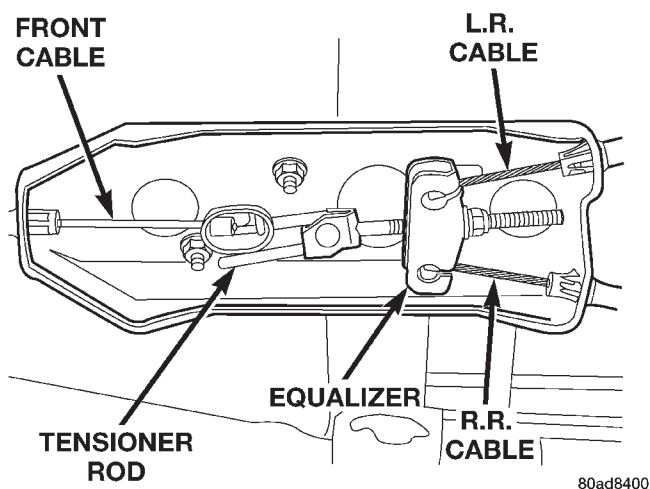

Fig. 45 Park Brake Cable Attachment
(1) Release parking brakes.
(2) Disconnect battery negative cable and raise vehicle on hoist.
(3) Remove front cable adjusting nut and disengage cable tensioner from equalizer. Then remove front cable from tensioner (Fig. 45).
(4) Disengage front cable from insert and insert from floorpan.
(5) Lower vehicle.
(6) Remove console, refer to Group 23 Body.
(7) Remove park brake lever.
(8) Disconnect front cable from parking brake lever and remove cable.